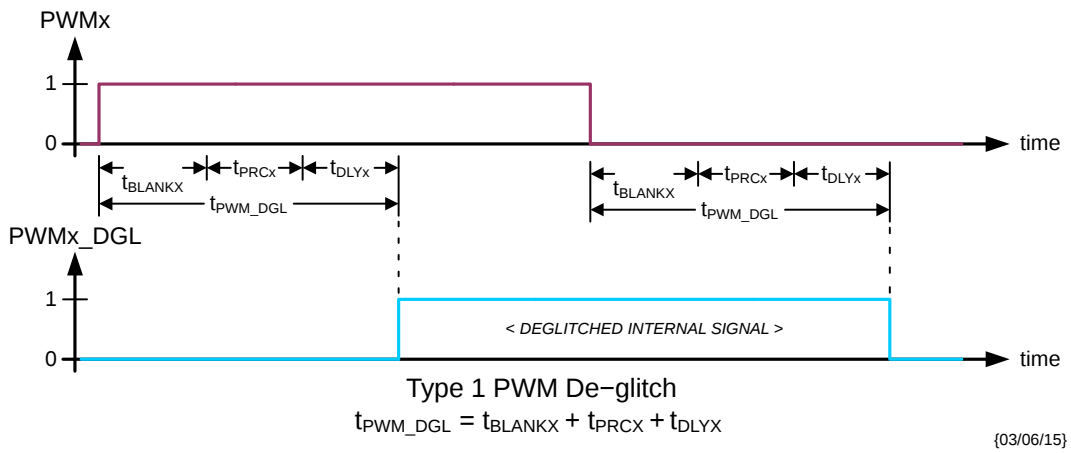
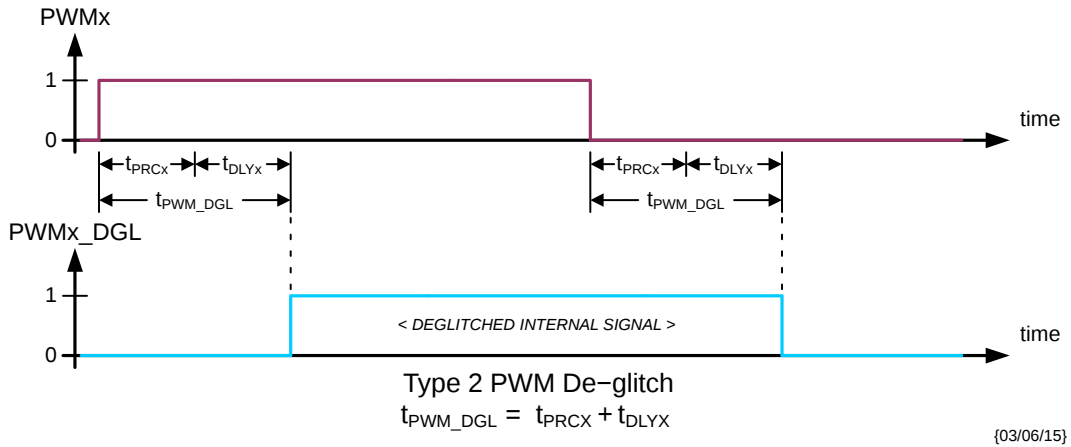
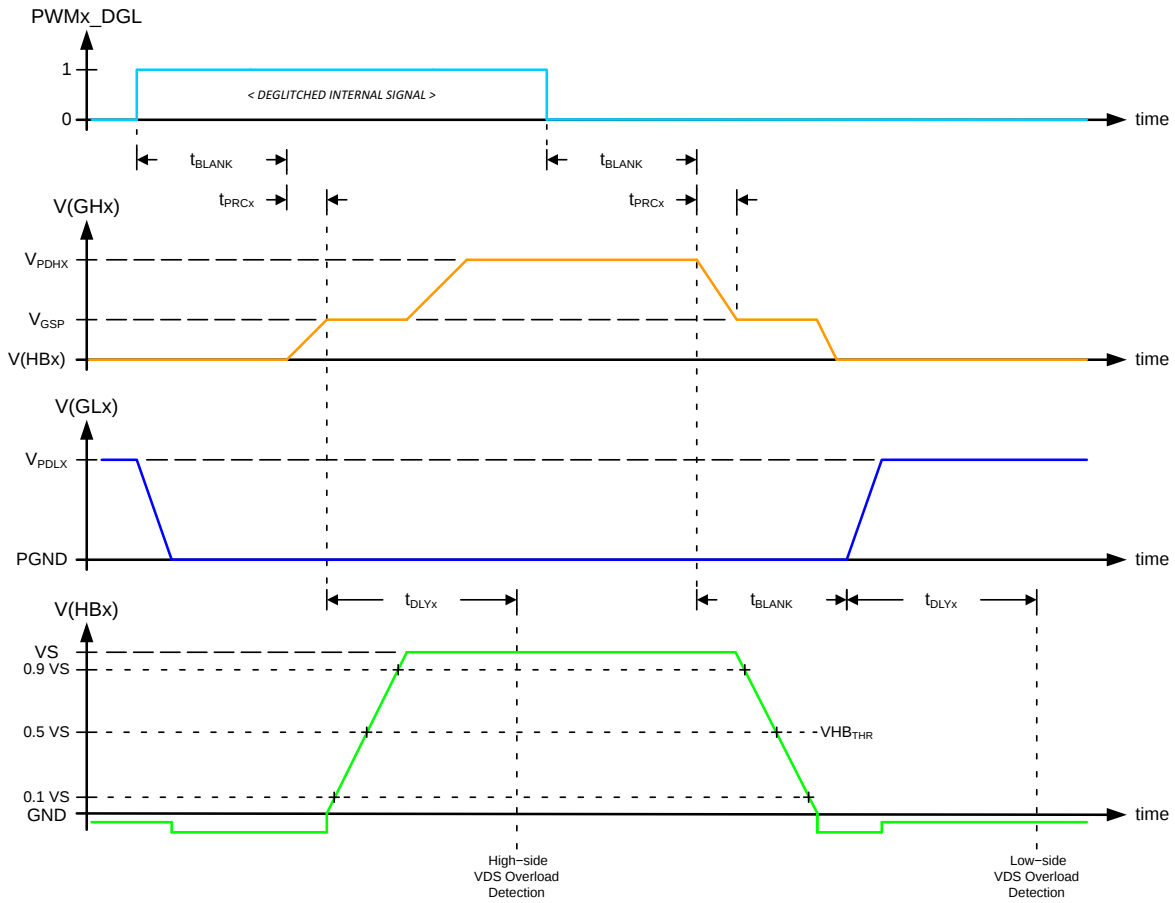

Figure 10. Type 1 PWMx Input De-glitch – CR14.DGLx = 0
Figure 11. Type 2 PWMx Input De-glitch – CR14.DGLx = 1
Figure 12. HBx Output Switching in Half-Bridge Configuration
When multiple PWMx inputs are needed to be active, the scheduled PWM signals should be offset in time to avoid degradation of the VDS overload detection due to crosstalk (see § *Overload Protection*). The minimum offset should be based on the t_{PWM_DGL} times appropriate for the respective channels (see § *Switching Behavior of Half-bridge Drivers*, Figure 10 and Figure 11).
- adaptive PWM input de-glitch construction when in half-bridge configuration is selected by DGLx[6:0] bits (see Figure 10, Figure 11, Table 21 and Table 22).
In order to not overload the charge pump circuit in case of loss of VS or in case of a disconnected security switch, the steady state output current of the high-side gate drivers is limited to I_{GHX_SS} after $t_{TIMEOUT}$ (see I_{GHX} in Figure 12 and § *Electrical Characteristics: Half-Bridge Pre-Driver Outputs*).
When operating in PWM mode, type 1 de-glitch is selected when CR14.DGLx = 0 (see Figure 10) and the adapted time is given by:
Type 2 de-glitch is selected when CR14.DGLx = 1 (see Figure 11) and the adapted time is given by:
When operating in PWM mode, the timing of the gate drivers is according to Figure 12.
- the PWMx_DGL resulting from the channel's operating configuration (see § *Switching Behavior of Half-bridge Drivers*, Figure 10 and Figure 11);
The appropriate latch is set (after the adapted t_{PWM_DGL} – see Figure 10 and Figure 11) at the start of the switch activation (see V(HBx) in Figure 12). In the case of the high-side MOS, the delay time t_{DLYX} is started at the end of the pre-charge time (t_{PRCX}). In the case of the low-side MOS, the delay time t_{DLYX} is started concurrent with the GLx turn-on current (see I(GLx) in Figure 11). At the end of time t_{DLYX} the switching node voltage is compared with the appropriate VDS_{THR_R} or VDS_{THR_F} overload detection threshold (see § *Electrical Characteristics: Half-Bridge Diagnostics*).